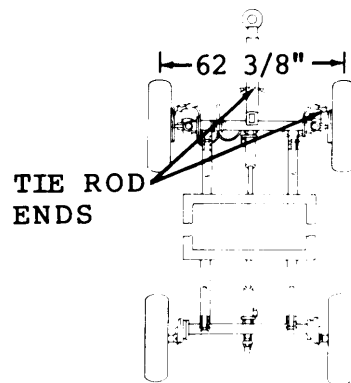

Figure 3-31. Alinement.
c. *Alinement.* (Refer to Figure 3-31).
- (1) Place transporter on flat surface with front wheels and towbar facing straight ahead.
- (2) Adjust each tie rod assembly to provide 23-1/8 inches between the centers of tie rod.
- (3) Measure the distance between the center of the front wheels. This will give the "Toe in" measurement. The dimension should be 62 3/8".